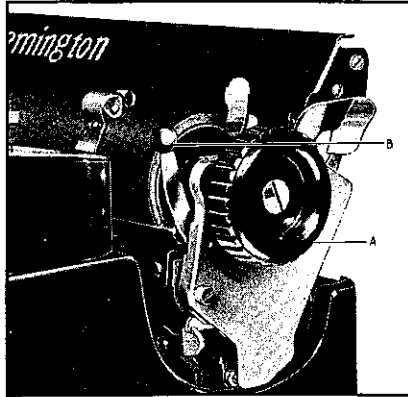

Fig. 1
17. CARRIAGE LOCK LEVER. Locks carriage to prevent damage when carrying machine. (See Fig. 1.)